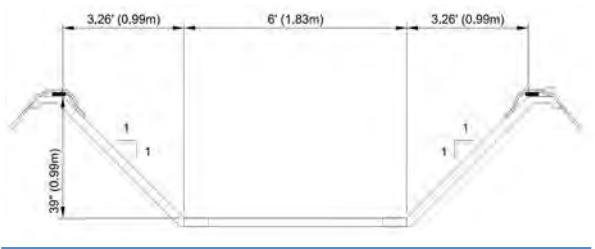
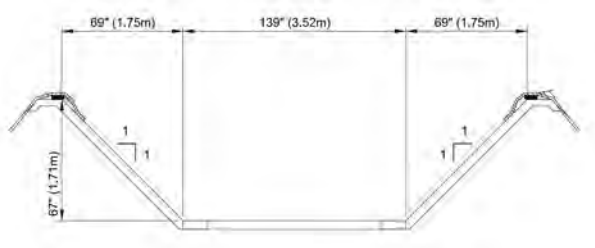

Figure 17
Figure 18
**Figure 17** shows a one base wide and one wall high (135°) MegaDitch cross-section. **Figure 18** shows a two base wide and two wall high (135°) MegaDitch cross section. The base and wall sections can be trimmed by **Penda** to create any combination of sections to provide the required channel size.